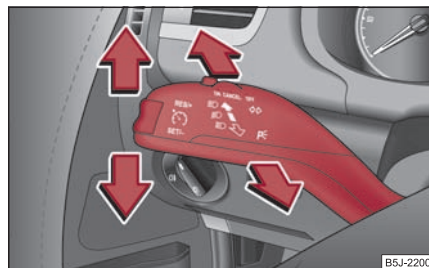

Fig. 53 Turn signal and main beam lever
- Press the main beam lever forward in order to switch on the main beam ⇒ page 54, fig. 53.
- Push the lever upwards or downwards ⇒ fig. 53.